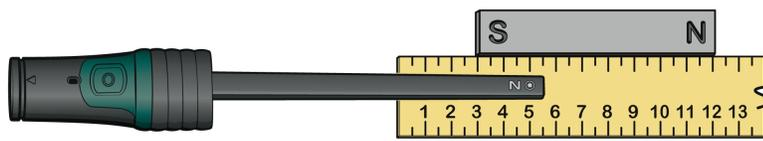

Figure 2
6. Move the sensor and repeat the Step 5 procedure at 1 cm intervals until you have reached a point 3 cm beyond the N-pole end of the bar magnet. **Important:** Keep the probe parallel to the magnet throughout data collection (see Figure 2).